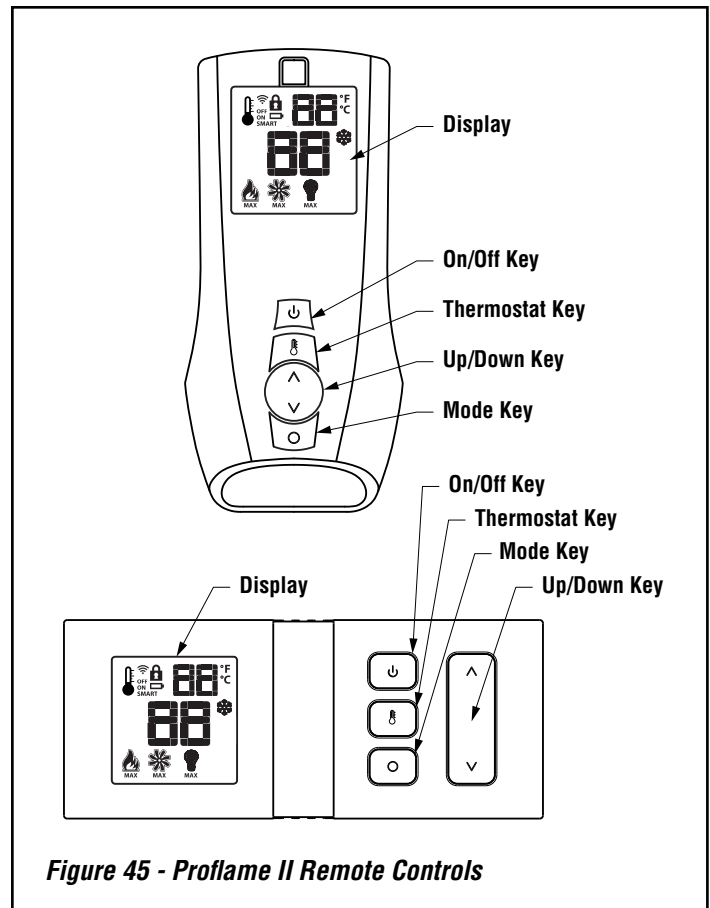
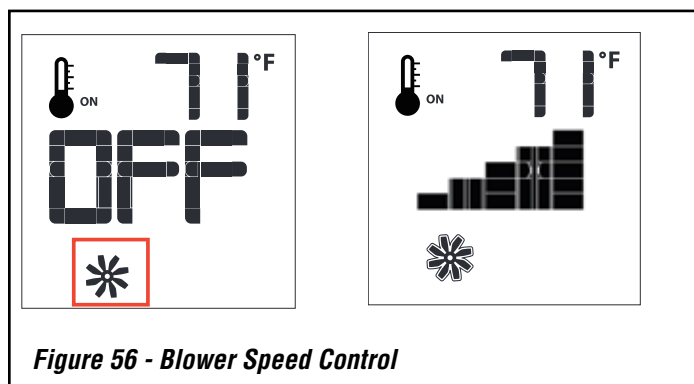

Figure 45 - Proflame II Remote Controls
Figure 56 - Blower Speed Control
The Proflame II Remote control uses a streamlined design with a simple button layout and informative LCD display. A Mode Key is provided to index between the features and a Thermostat Key is used to turn On/Off or index through Thermostat functions, see *Figures 45 and 46*.
The fireplace is equipped with optional hot air circulating blowers. The speed of the blowers can be controlled by the Proflame system. The blower speed can be adjusted through six (6) speeds. To activate this function use the Mode Key, see **Figures 45 and 46, Page 45**, to index to the blower control icon, see **Figure 56**. Use the Up/Down Arrow Keys to turn on, off, or adjust the blower speed. A single “beep” will confirm reception of the command.